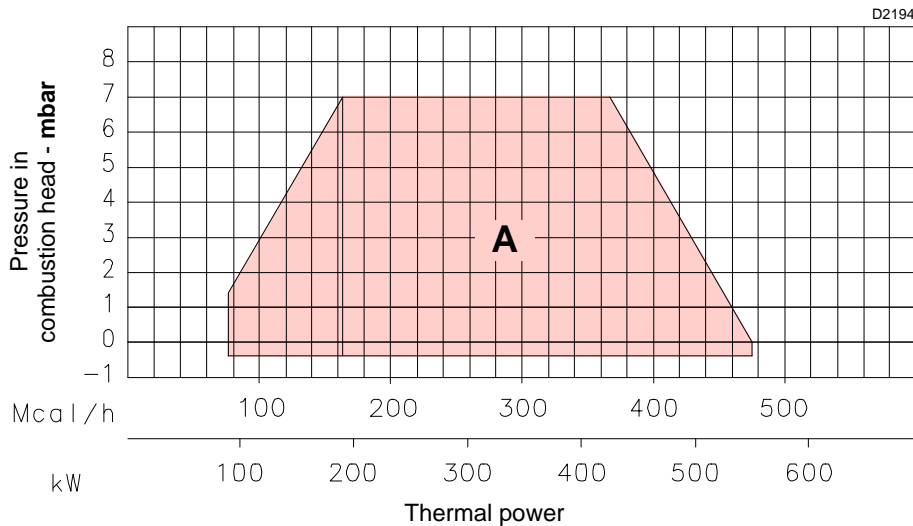

Fig. 2
- a **MAXIMUM OUTPUT**, selected within area A (Fig. 2);
The firing rate value (Fig. 2) has been obtained considering an ambient temperature of 20 °C, an atmospheric pressure of 1013 mbar (approx. 0 m a.s.l.), and with the combustion head adjusted as shown on page 17.